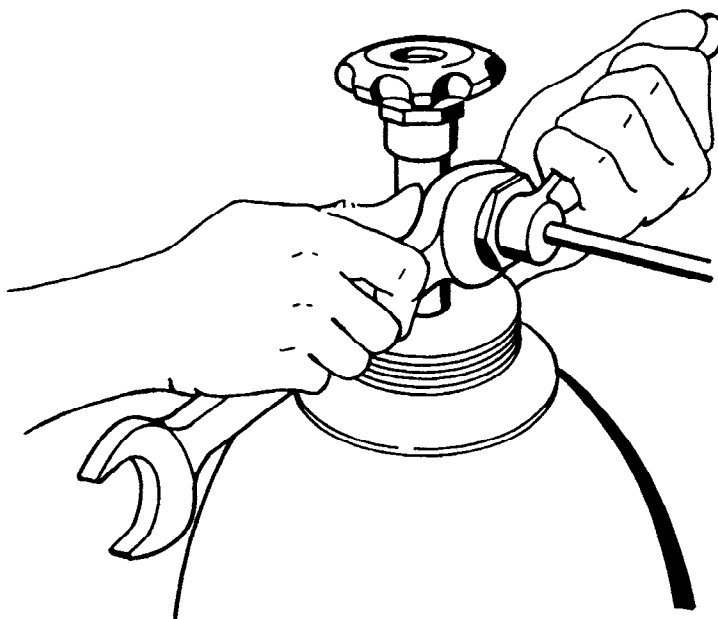

Figure 2-8
3. Using the handle on the pigtail, smoothly pull the cylinder connection end of each pigtail to the cylinder valve and hand tighten each cylinder connection nut to the cylinder valve as shown in Figure 2-8. Then use a wrench to firmly tighten each connection.